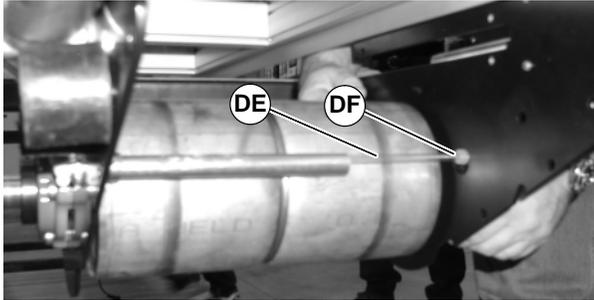

Figure 97
7. Disconnect flexible air hose (DE of Figure 97) from fitting (DF).